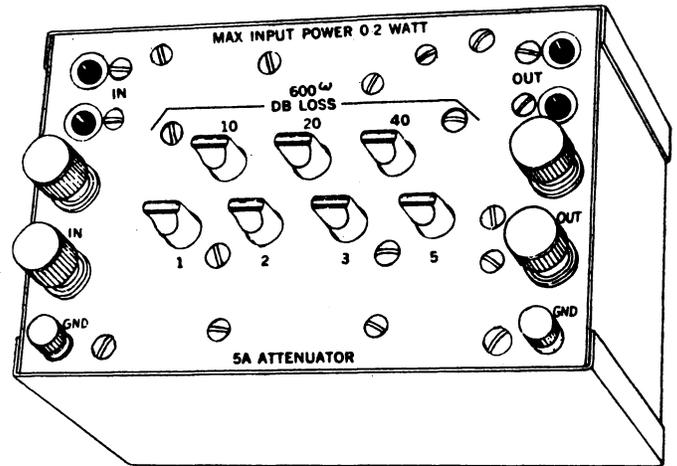

Fig. 2 - Top View
2.06 Fig. 2 shows the arrangement of the top of the attenuator. It will be noted that the seven turn-button keys are arranged in two rows and that the input and output are carried through both binding posts and double jacks. Binding posts marked GND are provided at the input and output sides of the panel and are connected to the grounded parts of the set, which consist of the case and the internal shield.